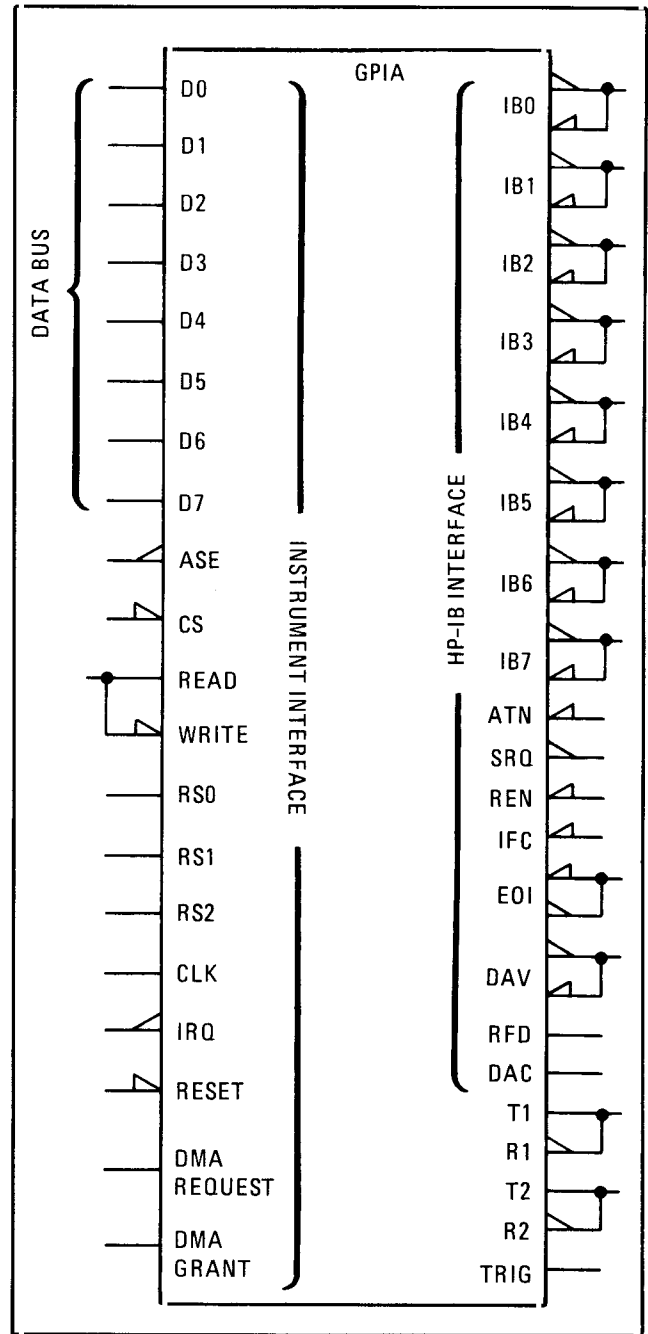

Figure 8-23. General Purpose Interface Adapter (GPIA)
**General Purpose Interface Adapter (GPIA).** Refer to Figure 8-23. The GPIA interfaces a microprocessor through the instrument interface and a computer controller through the HP-IB interface. Data flow between the Signal Generator's microprocessor circuits and the interface bus occurs via the D0—D7 data bus lines and the IB0—IB7 signal lines. Each allows bi-directional data transfer. The signal lines pass ASCII data (7 bits).